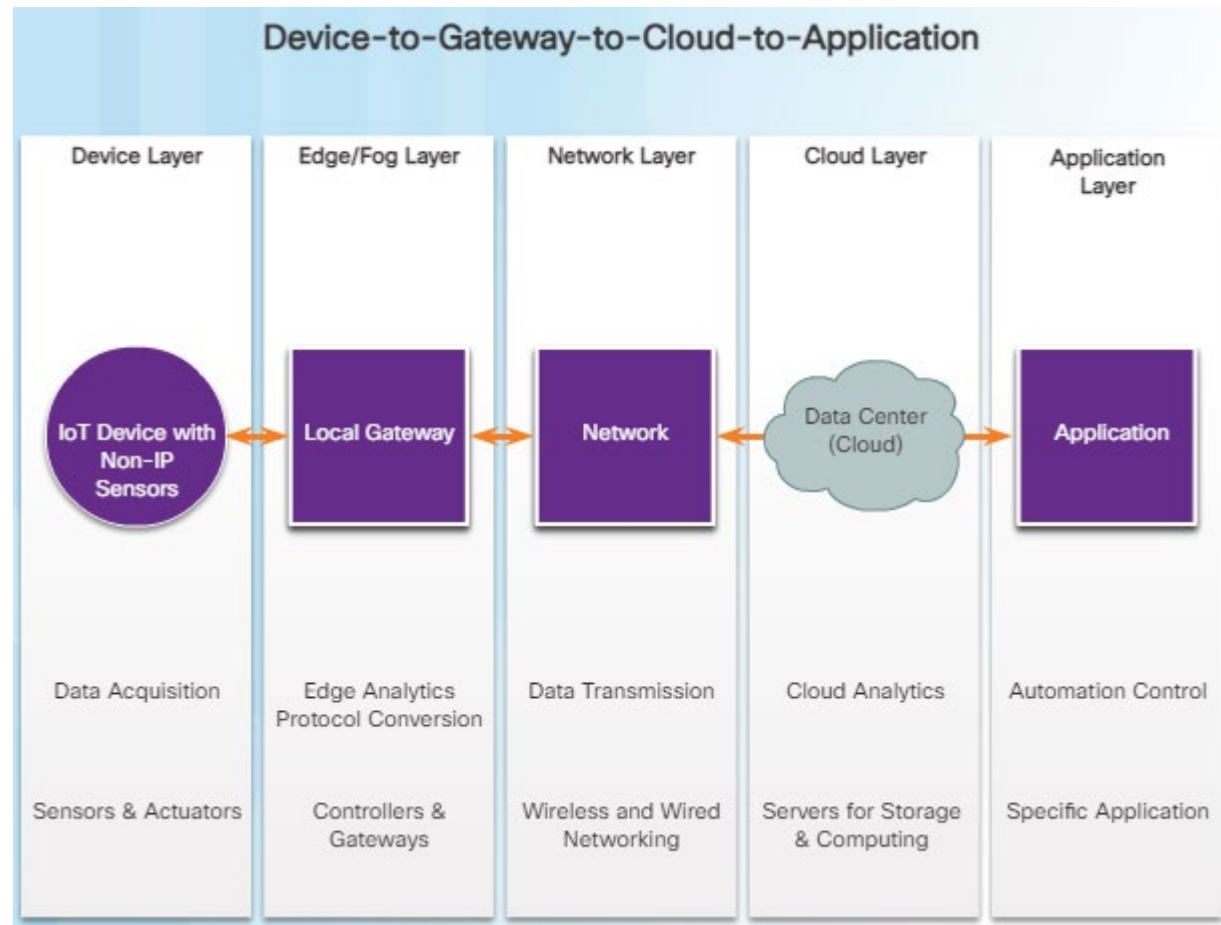

Figure 4
- **Device-to-Gateway-to-Cloud-to-Application (Figure 4)**